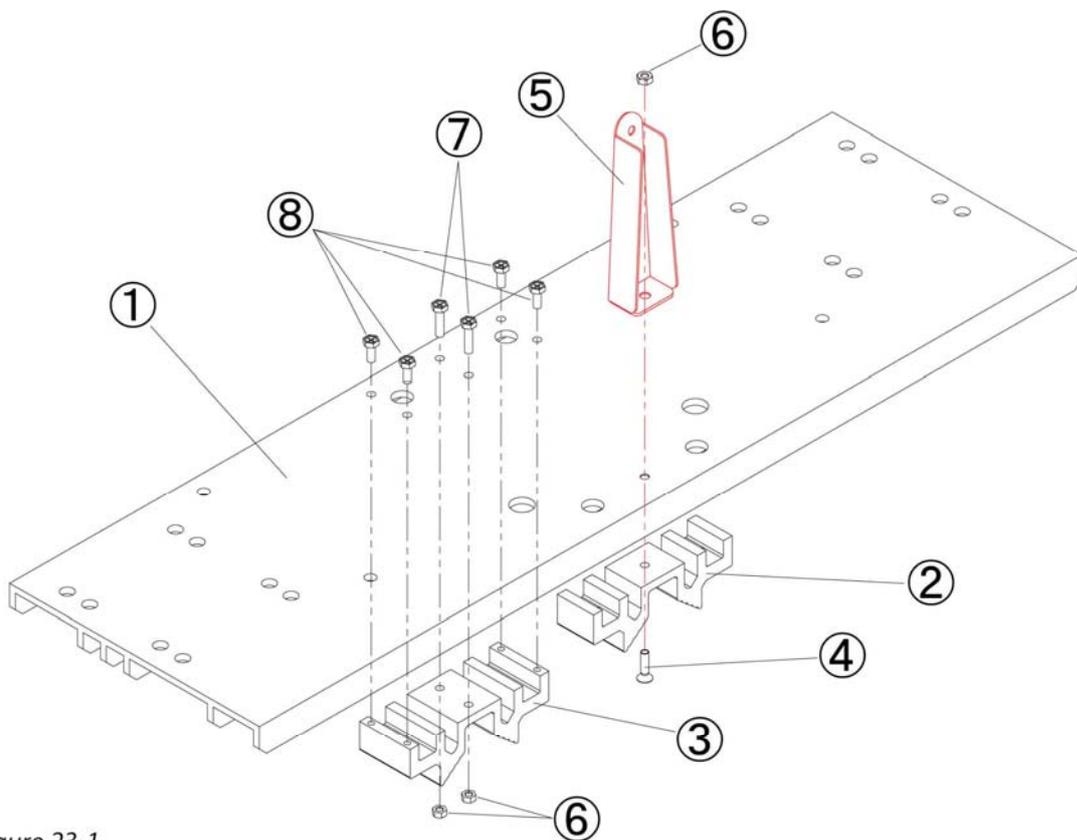
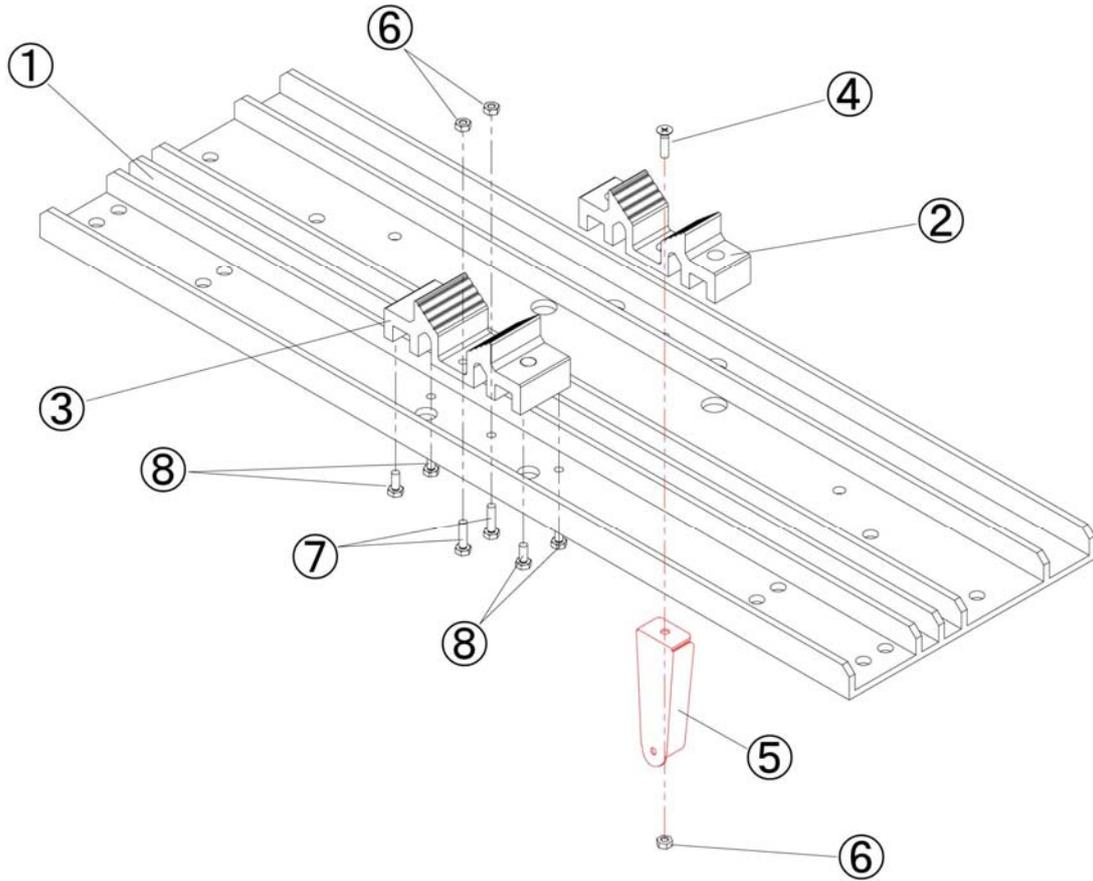

Figure 23-1
Figure 23-2
Assemble shown as Diagram11、Figure23-1、 and Figure23-2」
* 「Figure23-1」 shows the side on which AEU should be attached.
*Figure23-2 shows the bottom side of the plate.